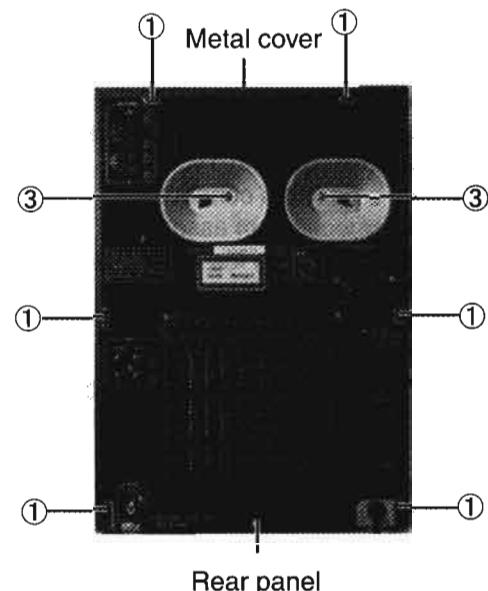

Fig.1
■ Removal of the CD Traverse Mechanism Assembly (See Figs 1,3 ~5)
2. Remove the two screws ③ fastening the CD traverse mechanism assembly to the rear panel of the main unit. (See Fig.1)